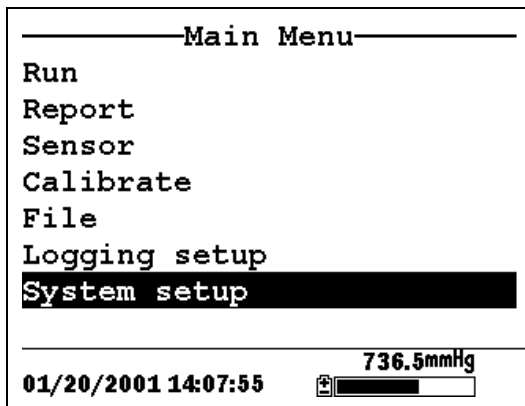

Figure 10.1 Main Menu
- 2.** Use the arrow keys to highlight the **Data filter** selection. See Figure 10.1 Main Menu.
2. Use the arrow keys to highlight the **ID** selection. See Figure 10.1 Main Menu.
7. Use the arrow keys to highlight the **GLP Filename** selection. See Figure 10.1 Main Menu.
2. Use the arrow keys to highlight the **TDS Constant** selection. See Figure 10.1 Main Menu.